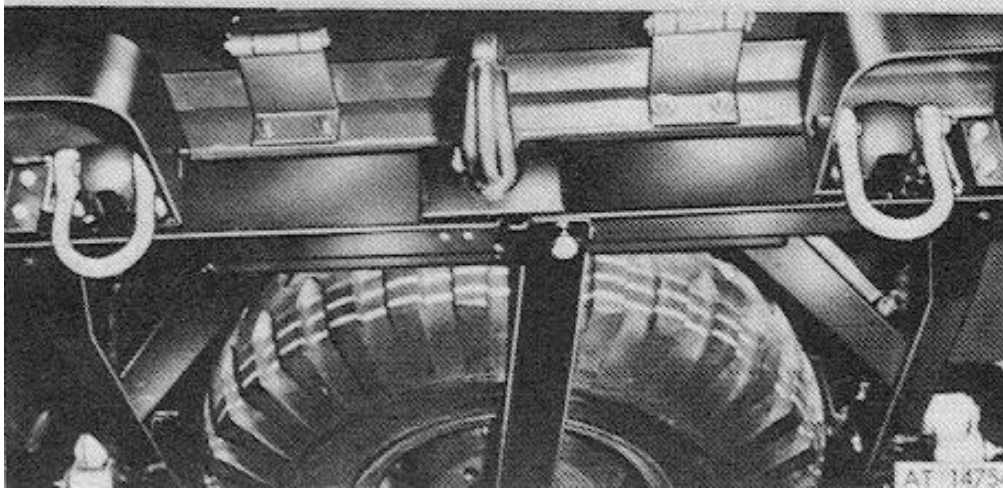
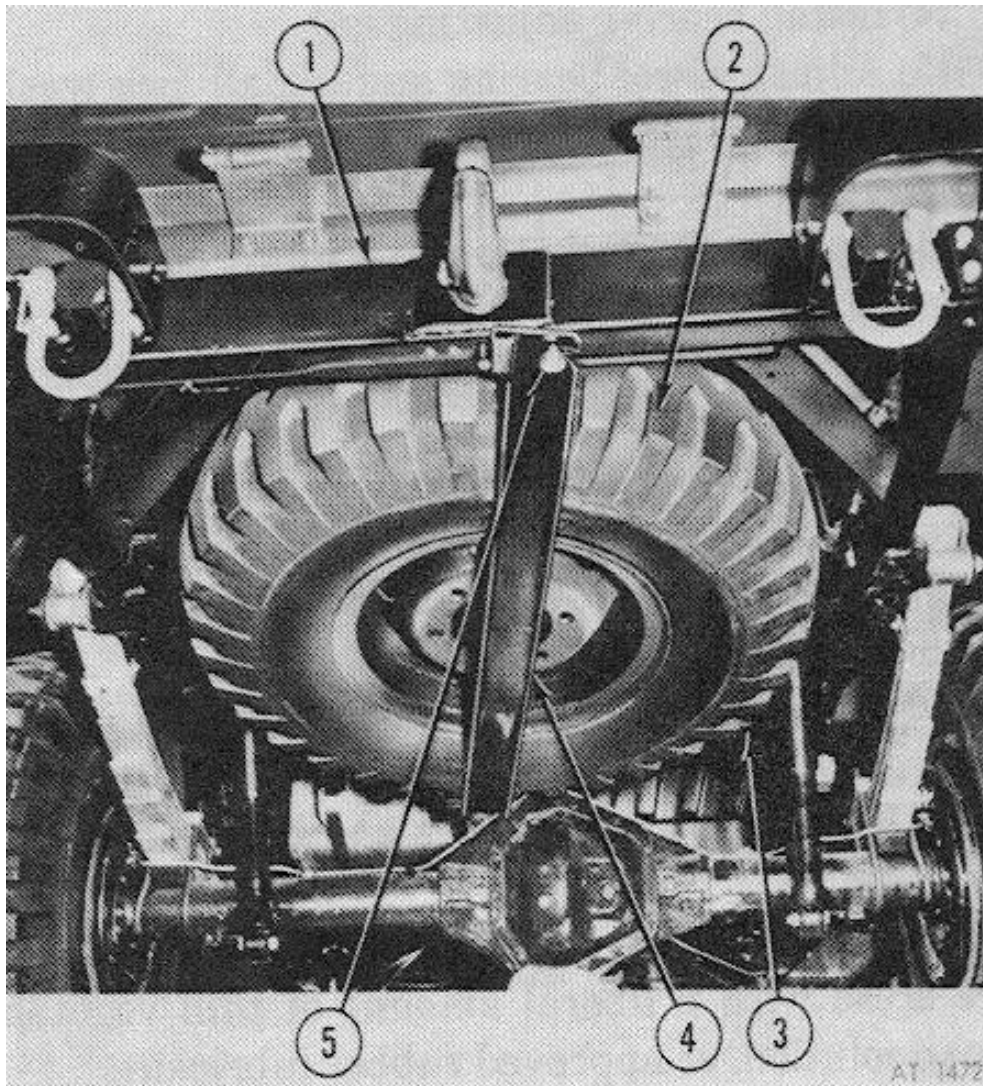

Figure 2-92. Towing shackles.
Figure 2-93. Spare tire stowed.
b. Towing Shackles. (Fig 2-92)
- (1) Remove cotter pin from shackle pin and remove shackle pin from bracket.
- (2) Remove shackle from bracket.
- (3) Remove four nuts, lock washers and bolts which secure rear towing shackle assembly to rear crossmember and remove shackle assembly.
- (1) Remove towing shackles as described in (bi above).
- (2) Remove remaining nuts, lock washers and bolts which secure bumper to frame front and remove bumper.
f. Spare Tire Wheel Carrier. (Fig 2-93)
- (1) Loosen spare wheel mounting bar bolt attached to rear frame crossmember.
- (2) Slide slotted mounting bar left from bolt; lower mounting bar and remove spare wheel.
- (3) Remove cotter pin and lower strap bracket pin attaching mounting bar.
- (4) Remove spare wheel mounting bar from vehicle.
- (1) Position lifting brackets on front and rear wheels.
- (2) Install four lock washers and nuts and tighten.
d. Towing Shackles. (Fig 2-92)
- (1) Position rear towing shackle plates on rear crossmember. Install four bolts, lock washers and nuts; tighten to 80-120 lbs-ft. torque.
- (2) Install shackle on bracket and insert shackle pin through shackle and bracket.
- (3) Install cotter pin in shackle pin.
- (1) Position mounting bar on frame strap bracket and install retaining pin, washer and cotter pin.
- (2) Install spare wheel onto mounting bar: raise mounting bar and attach to bolt.
- (3) Tighten bolt securing spare wheel.